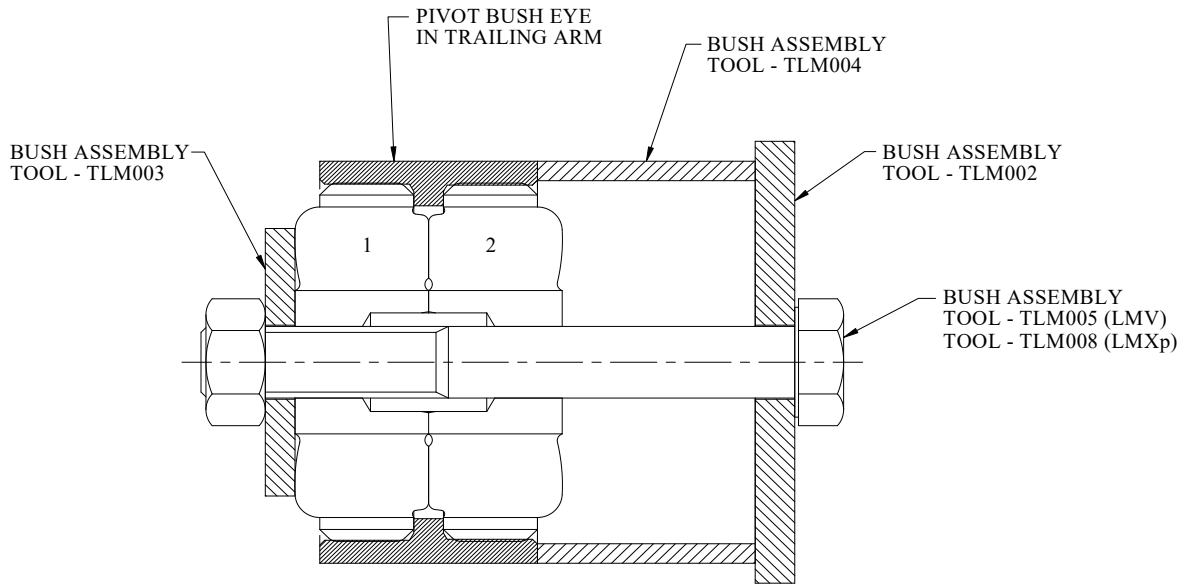

Fig 2.
- Using the TMC LM tools as shown in Fig 2 you can begin to remove the two pivot bushes from the eye of the suspension trailing arm.